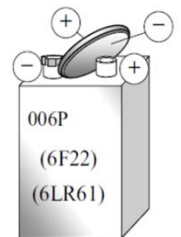

Fig. 4
- A connection with other metals and/or batteries may result in leakage, heat generation, explosion and/or fire. (Refer fig.4)